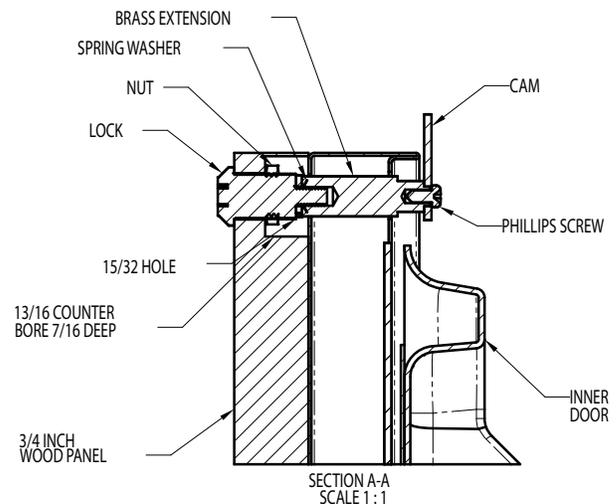

Figure 10
Locate and mark with a pencil the location of the lock hole on the overlay panel, this is the hole in the top corner of the handle side of the door. Remove the clamp and remove the overlay panel from the door. On the backside of the panel where you marked the lock location drill a  $\frac{13}{16}$ " (20.5mm) diameter counter bore  $\frac{7}{16}$ " (11.0mm) deep into the overlay panel. Drill a  $\frac{15}{32}$ " (12.0mm) diameter hole through the overlay panel centered on the counter bore being careful not to splinter the wood on the face side of the panel. (See Figure 10).
Two (2) lock extensions are supplied with the lock. Use the longer extension for a  $\frac{3}{4}$ " thick overlay panel and the shorter one for a  $\frac{5}{8}$ " thick panel. Assemble the lock extension, cam stop washer, spring washer, and set screw to the lock as shown in Figure 10 and 11. Install this assembly into the overlay panel and secure with the retaining nut using a 15mm socket. Make sure the key slot in the lock is vertical.